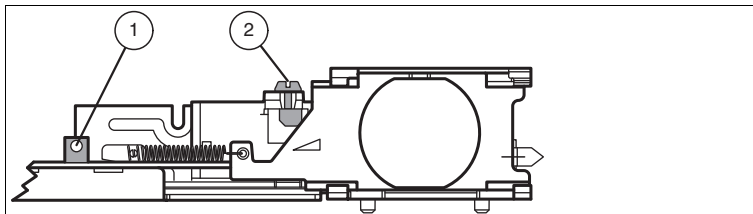

Figure 6.2 Adjustment of the sensing range
Adjust the detection range using the detection range screw (2). The detection range can be adjusted by turning the detection range screw (2) using a screwdriver, thereby moving the receiver lens. An optical adjustment accessory (green/red LED (1)) aids precise adjustment of the detection range above the ground → see Figure 6.2 on page 15.